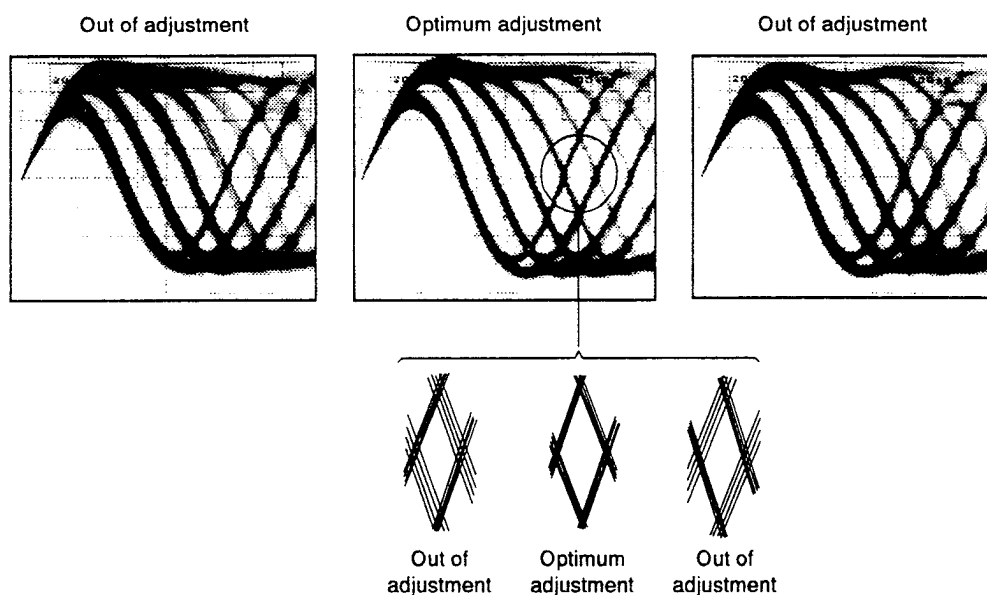

Fig. 3 Eye Pattern
3. Next, adjust the tangential tilt adjustment screw with the hexagon wrench (GGK1002) so that the eye pattern (the diamond shape at the center of the RF signal) can be seen the most clearly (Fig. 3).